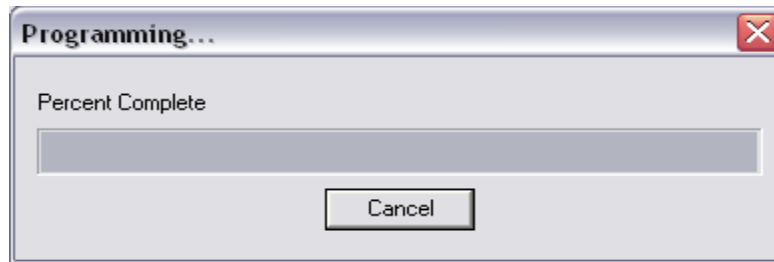

Figure 26 Programming Screen
6. To upload the new firmware, click the Update button and Figure 26 will be displayed for a few seconds.
7. After Figure 26 automatically closes, Figure 27 will be displayed. Click the OK button and now the uploading firmware process is completed.